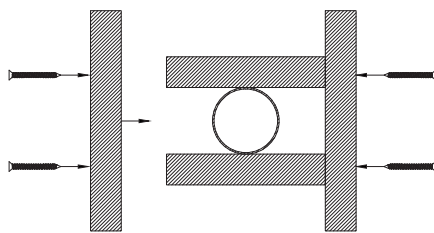
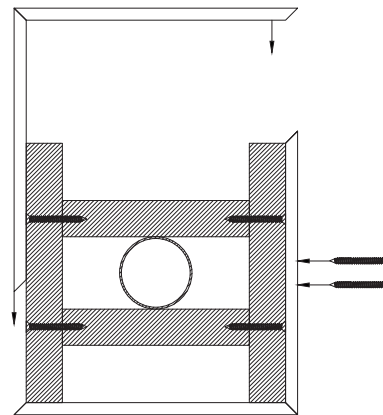
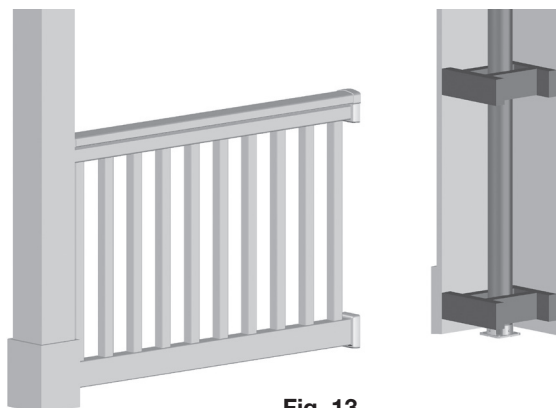

Fig. 12a
Fig. 12b
Fig. 13
Step 2 - Measure the gap of the post and screw the side wall with the inner walls. (Fig. 12a, Fig. 12b and Fig. 13)